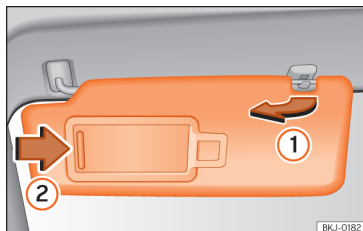

Fig. 81 Sun visor
- The sun visor can be pulled out of its mounting and turned towards the door »» Fig. 81 ①.